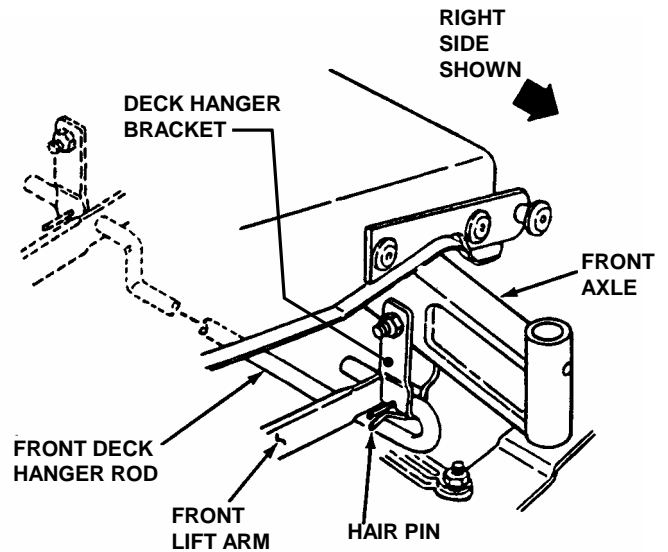

FIGURE 4.26
5. Remove hair pins from the front deck hanger rod and slide out the rod from deck hanger bracket. Front lift arms will be now be disconnected. See Figure 4.26.